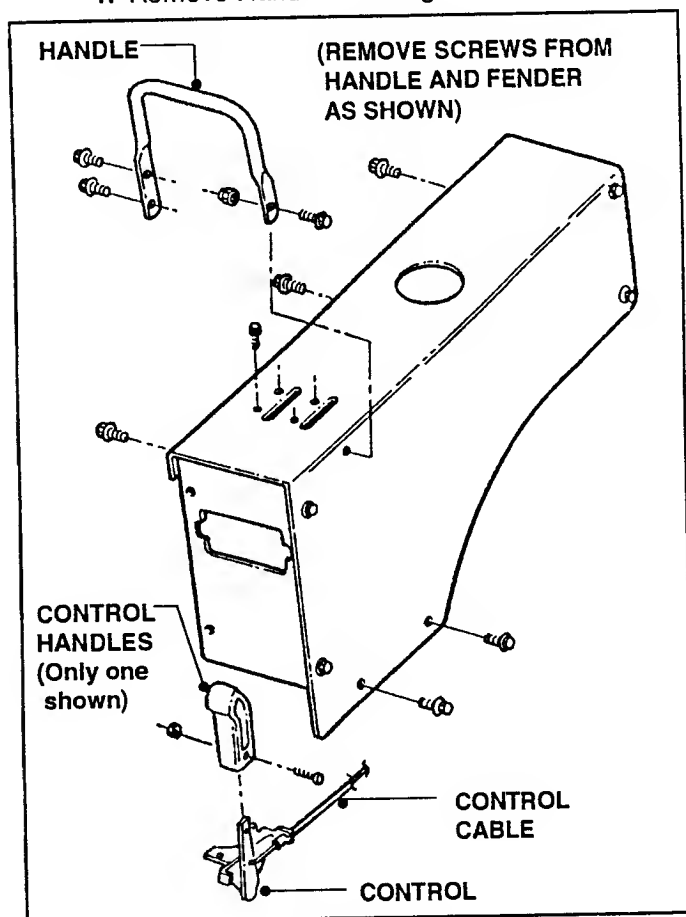

FIGURE 6.12
1. Remove Handle. See Figure 6.12.
2. Remove Screws from Fender at locations shown above in Figure 6.12.
7. Remove the four (4) Screws which secure the Choke and Throttle Controls to the Fender.